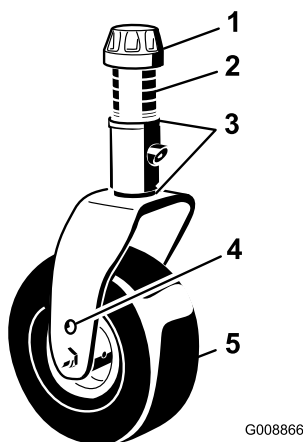

Figure 24
3. Remove the tensioning cap from the castor shaft (Figure 24). and slide the shaft out of the castor arm. Put 2 shims (1/8 inch [3 mm]) onto the castor shaft as originally installed. Slide the appropriate number of 1/2 inch spacers onto the shaft to get the desired height-of-cut.
4. Push the castor shaft through the front castor arm. Install the shims (as originally installed) and the remaining spacers onto the shaft. Install the tensioning cap to secure the assembly (Figure 24).